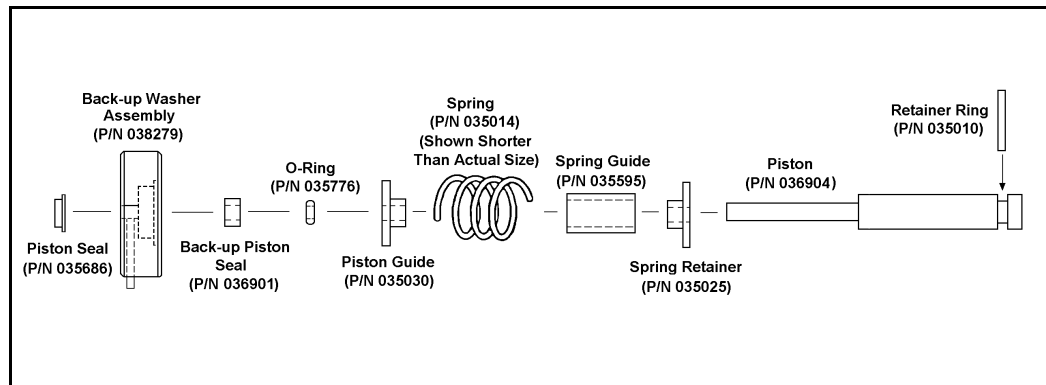

Figure 5-3. Piston Pump Assembly
11. Remove the spring, spring guide, spring retainer, and piston from the pump housing (see Figure 5-3). Inspect the interior of the housing for liquid and corrosion. Clean up any spills and carefully clean any signs of corrosion from the interior of the housing.
5. Remove the piston guide, spring, spring guide, spring retainer, and piston by pulling them straight out, away from the pump housing (see Figure 5-3).